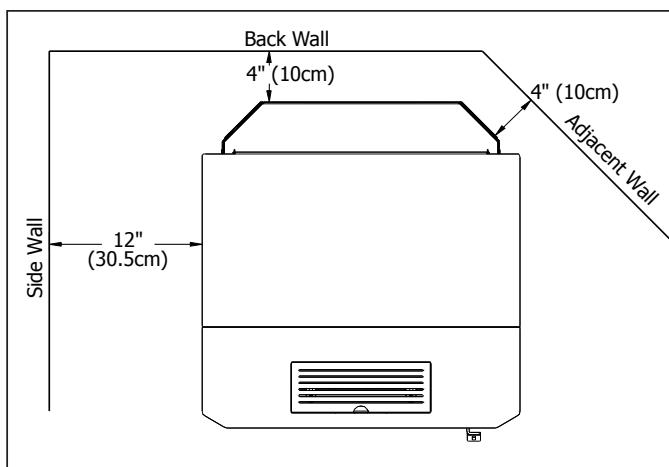

Figure 4: Maxx Clearance to Combustibles.
1. Remove the right and left hand cabinet sides. Partially back out the two (2) T-20 Torx screws on the back of each panel and the two (2) located on the front inside edge below the louvers and ash shelf. Pull the panel forward then remove.
3. Secure the shield to the unit with two (2) screws on each side (see Figure 4).